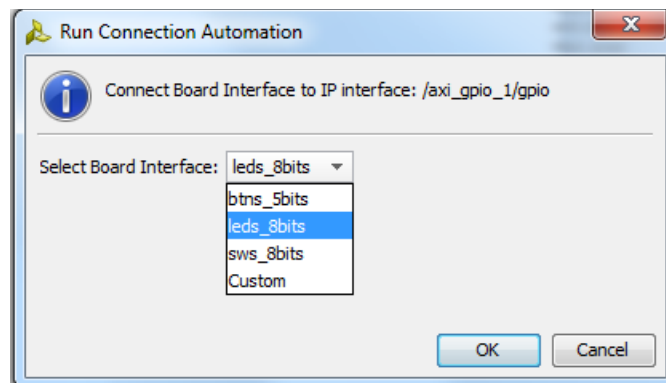

Figure 18: Select Board Interface Options
3. Select leds_8bits (FIGURE 18).